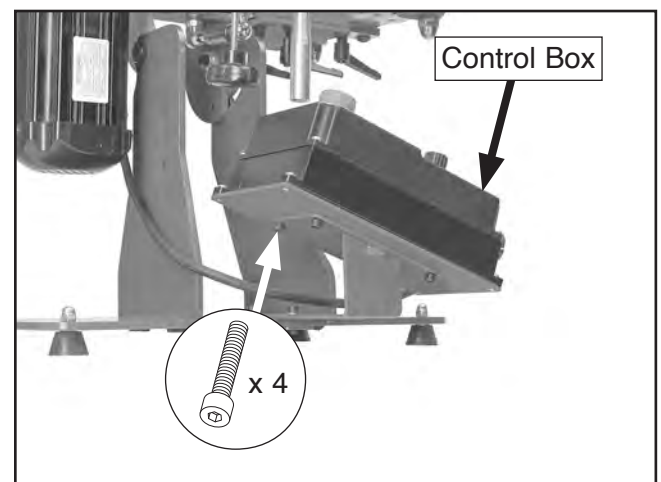

Figure 8. Control box attached to mount.
2. Attach control box to mount with (4) M5-.8 x 8 cap screws (see **Figure 8**).